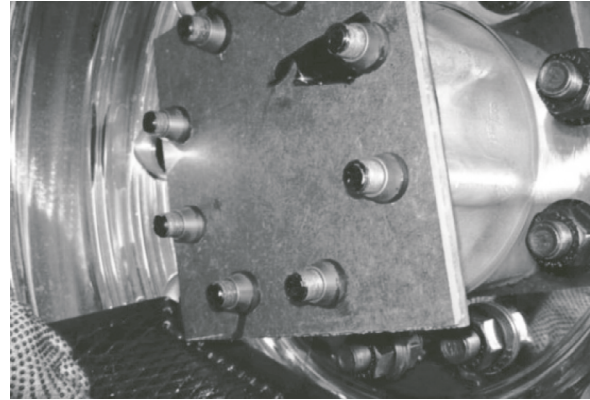

Figure 7 - Hub cover plate
4. Install a suitable hub cover plate over the opening and reinstall fasteners to seal it (**Figure 7**).